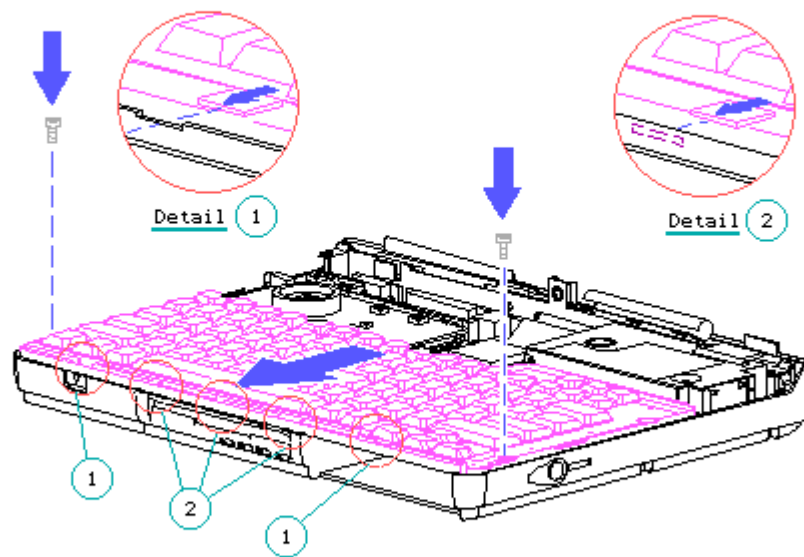

Figure 4-24. Replacing the Keyboard
front edge of the computer (Figure 4-24).
IMPORTANT: To ensure that the keyboard is reinstalled correctly, be sure that the metal tabs on the keyboard's front edge are properly aligned (Figure 4-24). The two tabs on the outside [1] go in the notches on top of the plastic edge at the front of the computer. The three tabs in the middle [2] tuck underneath the plastic edge.
4. Replace the two keyboard screws (Figure 4-24).